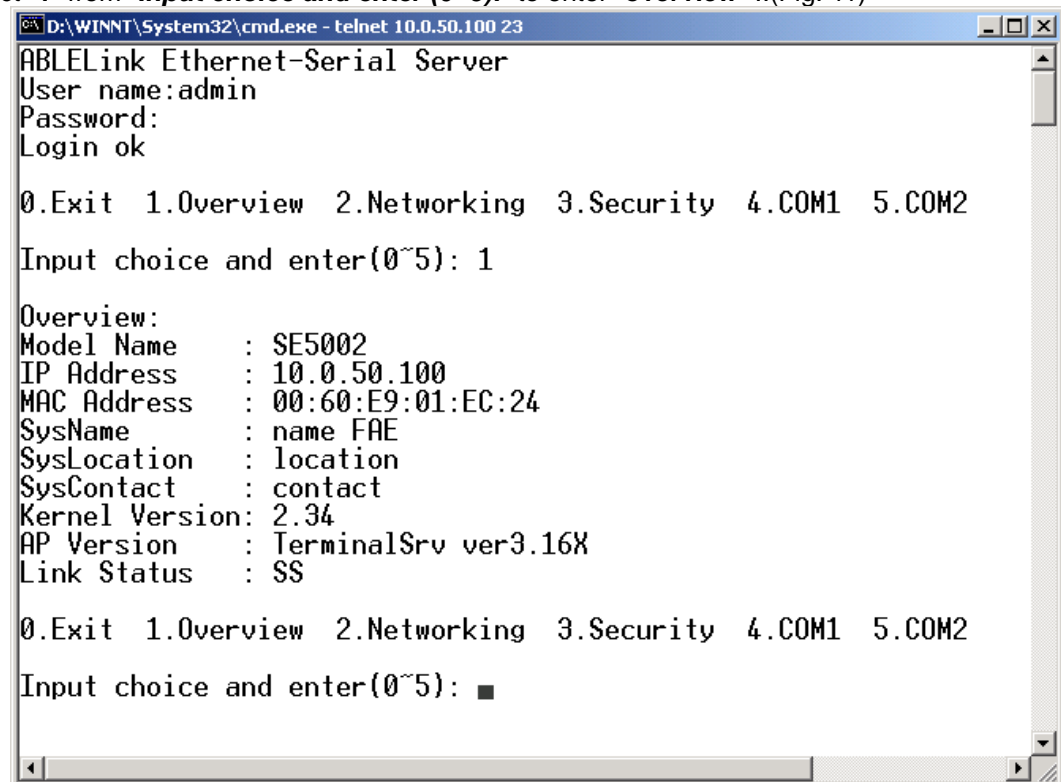

Fig. 11. System configuring using Telnet
- >Select "1" from "Input choice and enter (0~5):" to enter "overview" .:(Fig. 11)